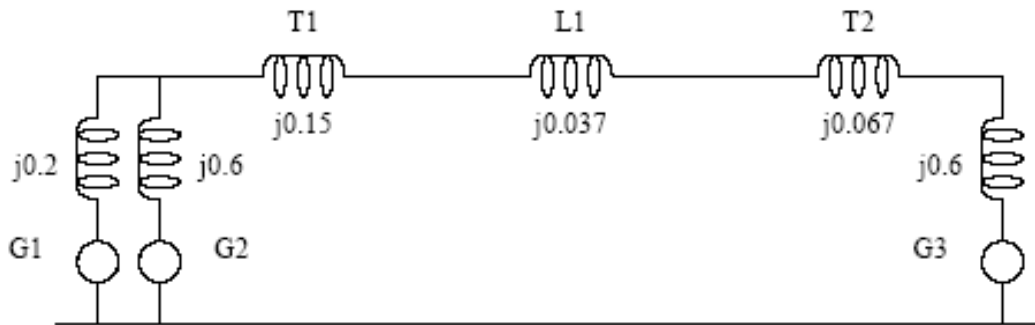

Figure 3 Reactance Diagram of Example 3.5.
b) The reactance diagram is shown in Figure 3.